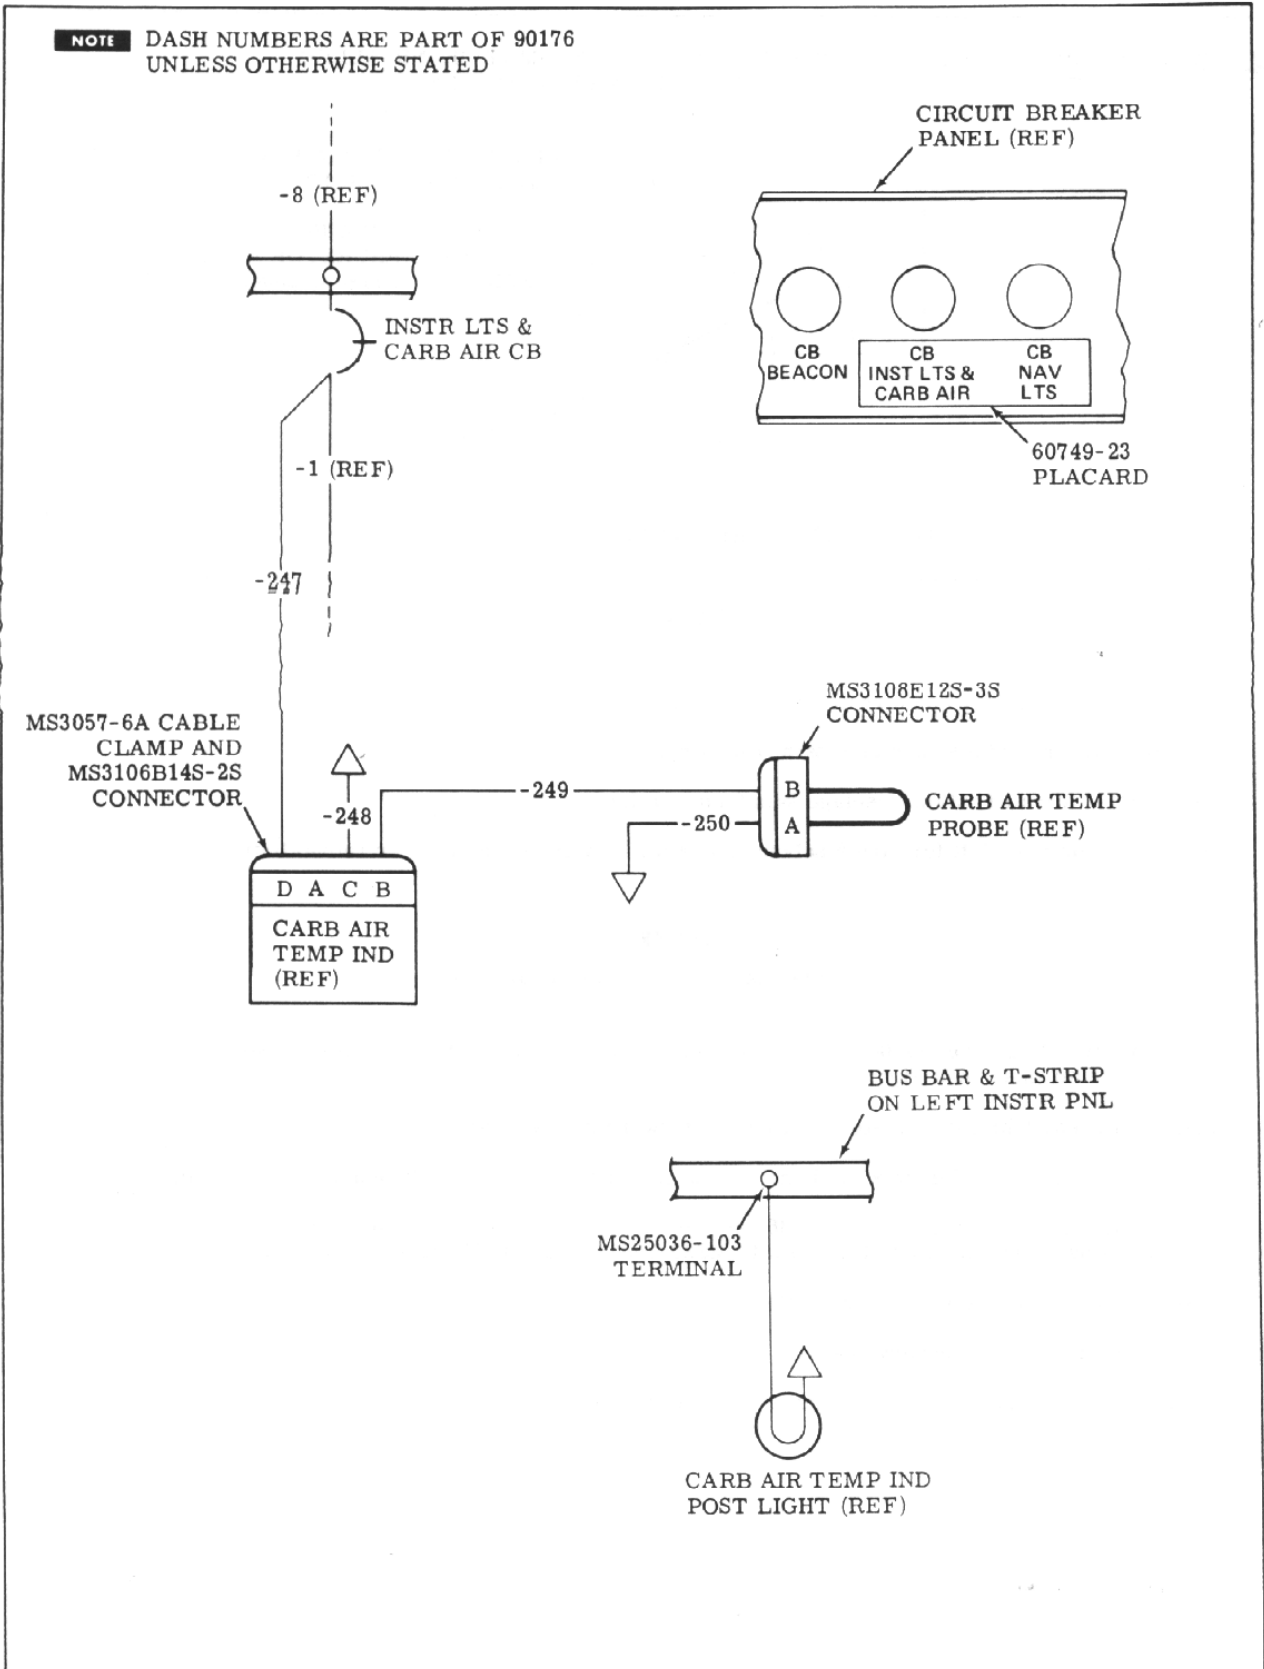

Figure 6.
32. Connect carburetor air temperature system to airplane electrical system with 90176-247, -248, -249 and -250 wires, MS3108E12S-3S connector (on temperature probe), MS3057-6A cable clamp and MS3106B14S2S connector (on carburetor air temperature indicator) (see Figure 6).
33. Install 60749-23 placard on circuit breaker panel (see Figure 6).